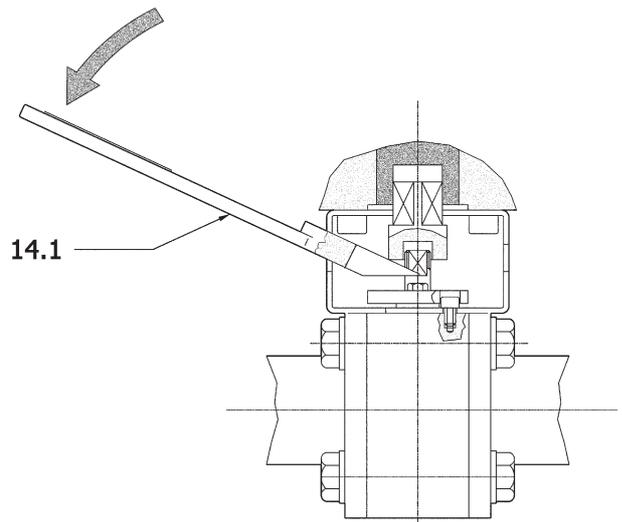

Fig. 956
- the valve is closed according to the indicator (33) on the top of the actuator.
- Position the handle (14.1) at the actuator's side (Fig. 956).